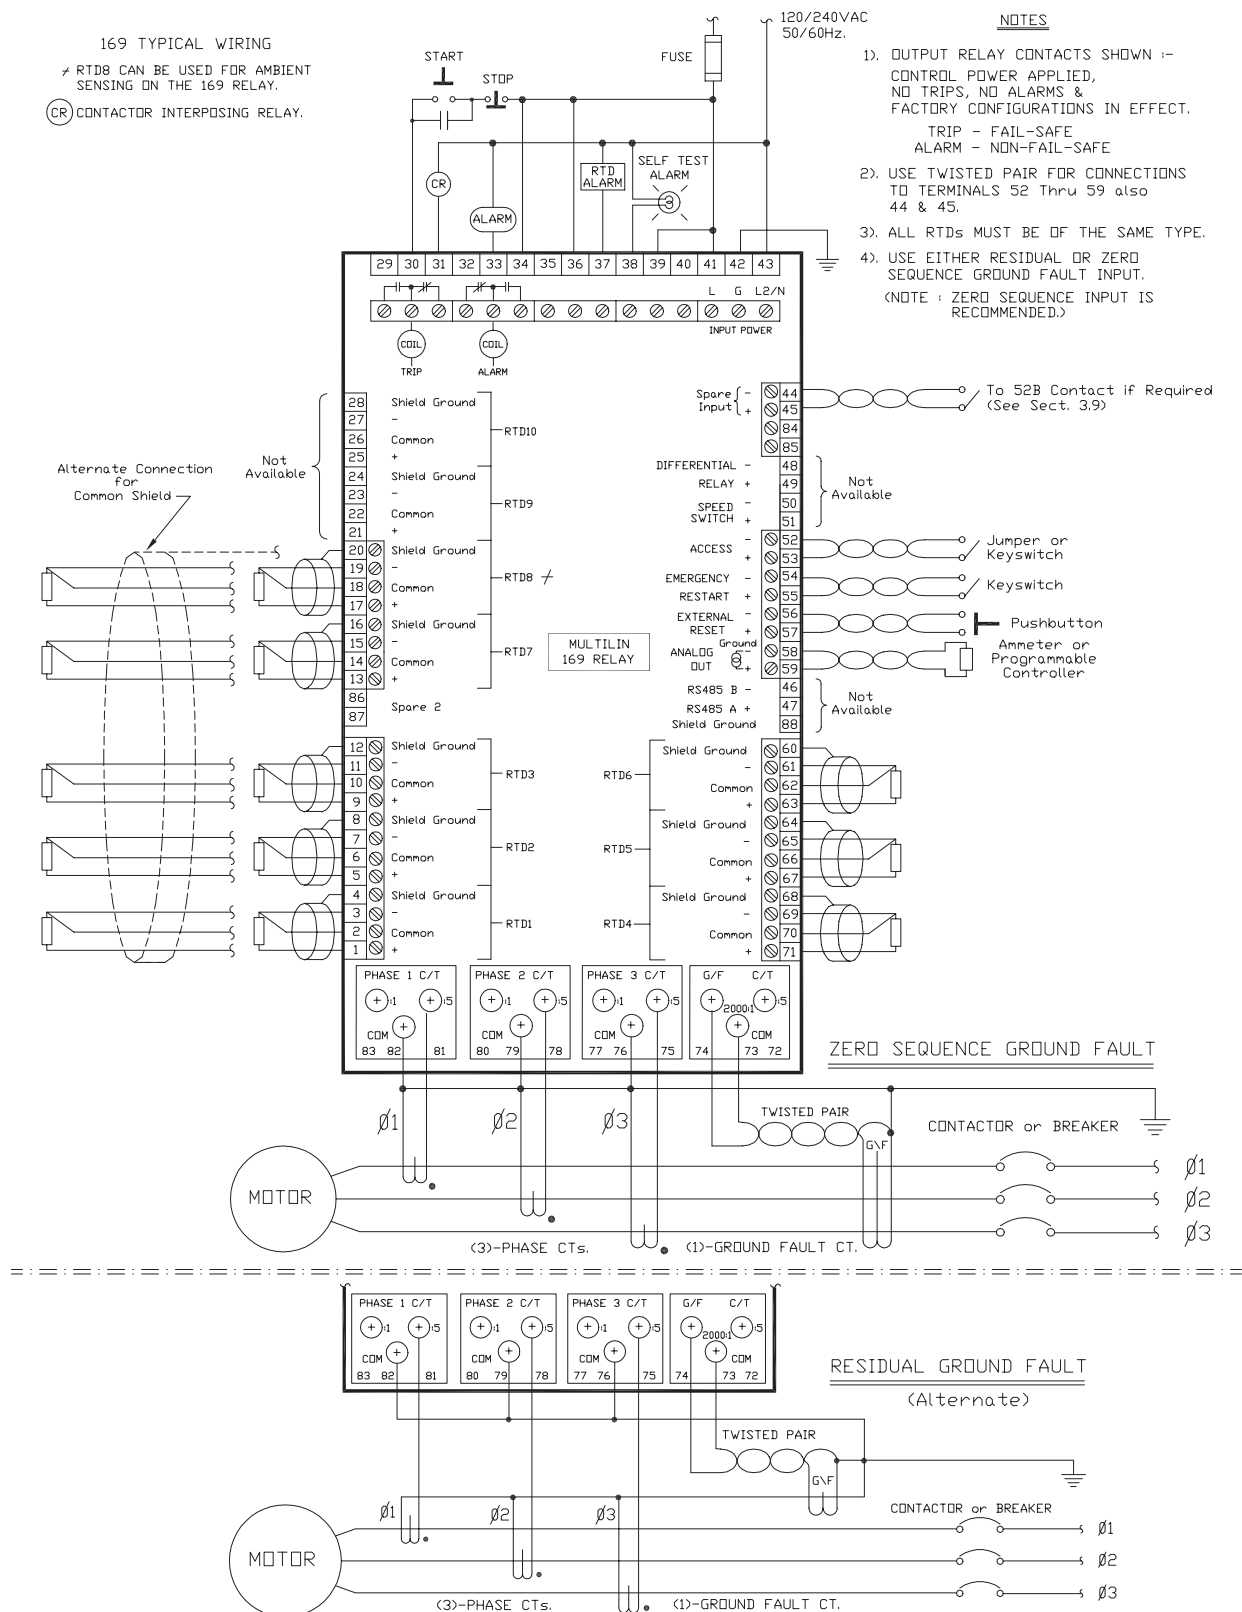

Figure 2-4 Relay Wiring Diagram (AC control power)
The connections made to the 169 relay will vary depending on the programming of the unit. It is not necessary to use all of the connections provided; a minimal configuration would include supply power, three phase current CT inputs and the Trip relay contacts wired in series with the contactor control relay or circuit breaker shunt trip coil. Connections to these and the other terminals outlined below will be explained in the following sections. Figures 2-4, 2-6, 2-7 show typical connections to the 169 relay.
NOTE: The rear of the 169 relay shows output relay contacts in their power down state. Figures 2-4, 2-6, 2-7 show output relay contacts with power applied, no trips or alarms, Factory Configurations, i.e. TRIP - fail-safe, ALARM - non-fail-safe, AUX.1 - non-fail-safe, AUX.2 - fail-safe). See Figure 2-5 for a complete list of all possible output relay contact states. See page 62 for a description of the RELAY FAILSAFE CODE.
One CT for each of the three motor phases is required to input a current into the relay proportional to the motor phase current. The phase sequence must be as shown in Figures 2-4 and 2-7 in order for the phase reversal function to operate properly. If two phase CTs are used as shown in Figure 2-6 the phase reversal function cannot be used (see section 3.19). The CTs used can have either a 1 amp or 5 amp secondary and should be chosen so that the motor full load current is between 50 and 95 percent of the rated CT primary amps. The CT ratio should thus be of the form $n:1$ or $n:5$ where n is between 20 and 1500. The ratio of the CT used must be programmed into the 169 (see section 3.7).
The ground fault CT is connected to terminals 73 and 72 for 5 amp secondary CTs or to terminals 73 and 74 for Multilin 2000:1 CTs. as shown in Figures 2-4, 2-6, 2-7. The polarity of the ground fault CT connection is not important. It is recommended that the two CT leads be twisted together to minimize noise pickup. If a 2000:1 ground fault CT is used, the secondary output will be a low level signal which allows for sensitive ground fault detection.
The main control relay or shunt trip coil of the motor starter or circuit breaker should be connected to the Trip relay contacts of the 169. These contacts are available as normally open (NO), normally closed (NC), and can switch up to 10 amps at either 250 VAC or 30 VDC with a resistive load. Silver cadmium oxide contacts are used because of their ability to handle high inrush currents on inductive loads. Contact Multilin if these contacts are to be used for carrying low currents since they are not recommended for use below 0.1 amps. Connection to the motor contactor or breaker is shown in Figures 2-4, 2-6, 2-7.
NOTE: The rear of the 169 relay shows output relay contacts in their power down state. Figures 2-4, 2-6, 2-7 show output relay contacts with power applied, no trips or alarms, and Factory Configurations in effect (i.e. TRIP - fail-safe, ALARM - non-fail-safe, AUX.1 - non-fail-safe, AUX.2 - fail-safe). See Figure 2-5 for a list of all possible contact states.
Each RTD has four connections to the 169 relay as shown in Figures 2-4, 2-6, 2-7. Since the RTD indicates temperature by the value of its resistance, it is necessary to compensate for the resistance of the connecting wires, which is dependent on lead length and ambient temperature. The 169 uses a circuit to cancel this resistance and read only the actual RTD resistance. Correct operation will occur providing all three wires are of the same length and the lead resistance is not greater than 25% of the RTD 0 C resistance. This can be accomplished by using identical lengths of the same type of wire. If 10 Ω copper RTDs are to be used special care should be taken to keep the lead resistance as low as possible.
RTD2, and RTD3 (terminals #1-12). Other RTDs should be connected to the terminals for RTD7-RTD10 (terminals #13-28) as shown in Figure 2-4.